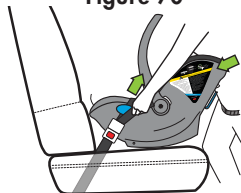

Figure 71
- Use your body to push and wiggle the Carrier into the vehicle seat back and pull free end of lap-only belt to remove all slack as shown in **Figure 71**.